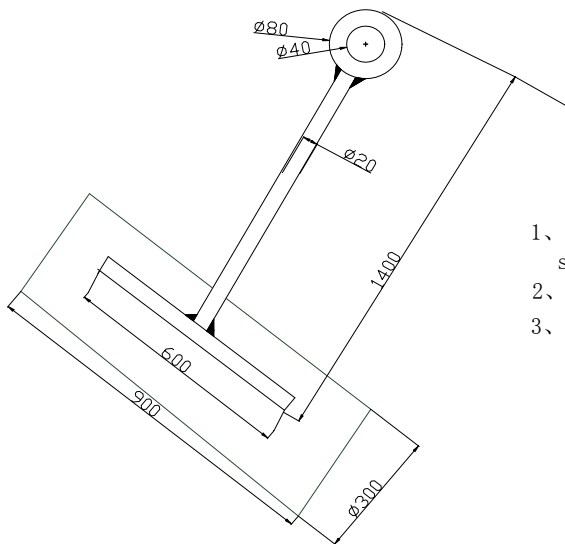

Figure2
4. The making and size of the upper tower is shown in figure 2. Its requirement: solid welding; no leak at the weld zone; the earth lug must be welded 20cm away from the ground(clearly visible). It will be connected to the lightning grounding device.
**figure 2 wind turbine flange connection in the top of tower**